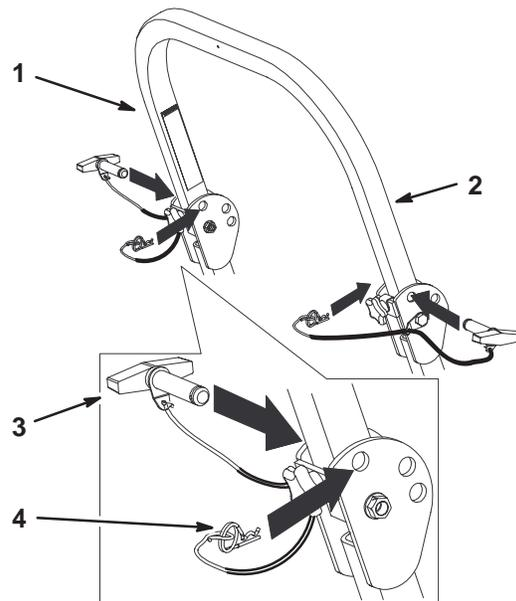

Figure 3
2. Remove the hairpin cotter pins and remove the two pins (Fig. 3).
4. Install the two pins and secure them with the hairpin cotter pins (Fig. 3).
5. To raise the roll bar, remove the hairpin cotter pins and remove the two pins (Fig. 3).
6. Raise the roll bar to the upright position and install the two pins and secure them with the hairpin cotter pins (Fig. 3).
- Tighten the front handles against the center roll bar ends (Fig. 3).